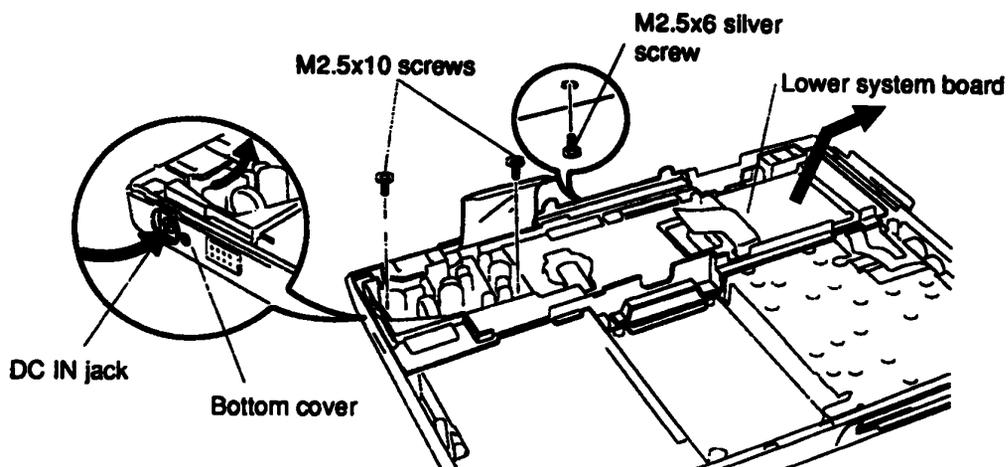

*Figure 4-19 Removing the RTC Battery and FDD Cable*
To remove the T1900/T1900C's lower system board and RTC battery, follow the steps below and refer to Figures 4-19 through 4-22.
3. Remove the tape and RTC battery from the middle frame assembly (Figure 4-19).
4. Disconnect the FDD cable from PJ202 on the lower system board (Figure 4-19).
To install the T1900/T1900C's lower system board and RTC battery, follow the steps below and refer to Figures 4-19 through 4-22.
8. Secure the **two M2.5x10 screws** by the power supply circuits, and connect the **FDD cable** to **PJ202** (Figures 4-19 and 4-20).
10. Set the **RTC battery** in the RTC battery holder on the middle frame assembly and place the tape over the battery (Figure 4-19).